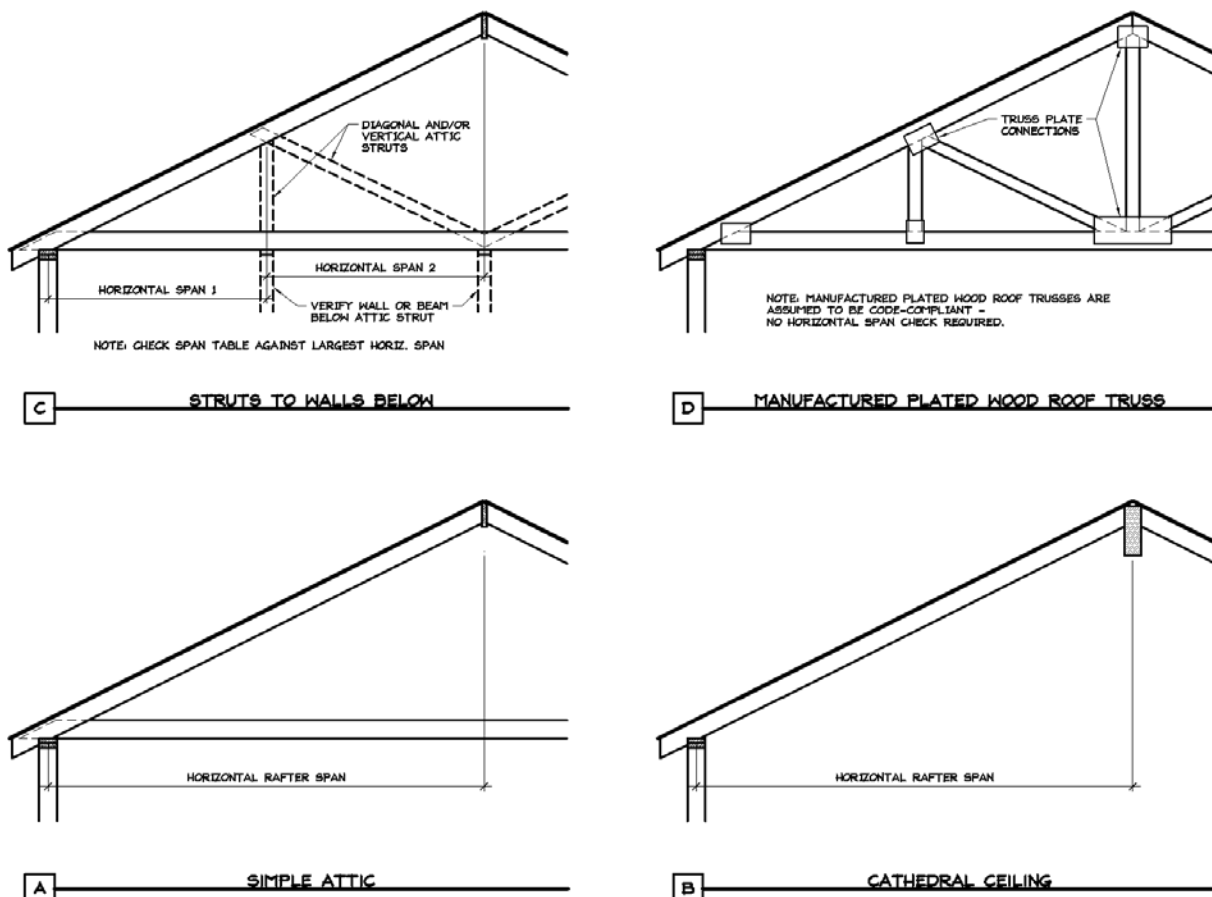

Figure 4. Definition of Rafter Horizontal Rafter Span
1. See Figure 4 for definition of roof rafter maximum horizontal span.